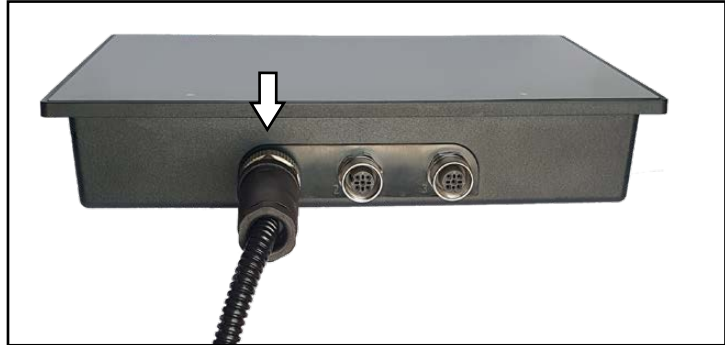

Fig. 11: Connection cable connected to connector 1 of the terminal
2. Attach the M12 plug of the connection cable to connector 1 of the terminal (see Fig. 11 and Fig. 12 – A). (The plug is fixed in place by screwing).